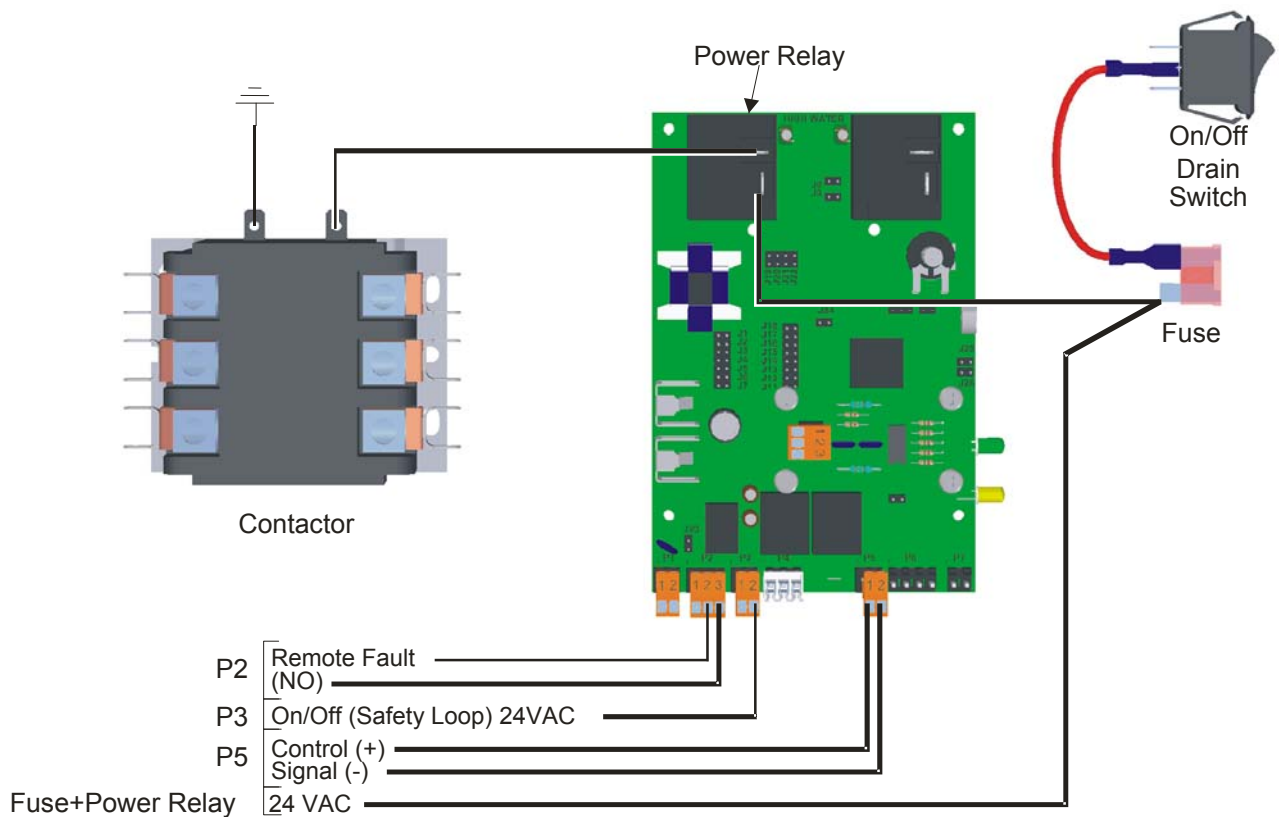

Figure 18: Control Wiring
* mA modulation control requires a 500 ohm resistor installed between pins 1-2 of P5 control signal input terminal (see Figure 18: Control Wiring).